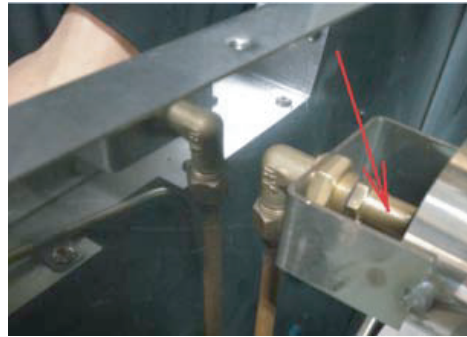

Fig.8
2. As Fig. 8 shows, unscrew and remove the Nat. gas orifice [#31(ϕ 3.2mm)] turning counter-clockwise, then screw in the LP gas orifice [#52(ϕ 1.68mm)] clockwise.